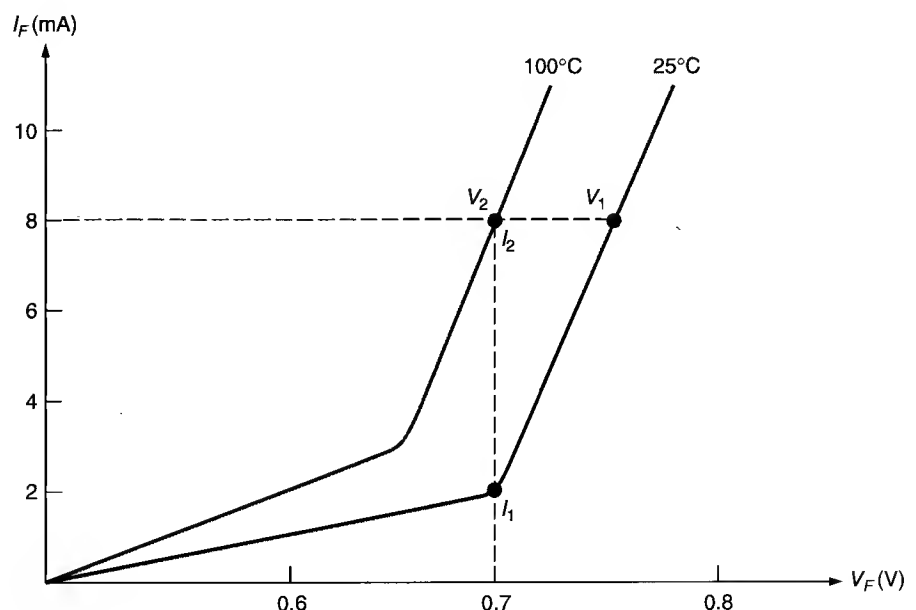

FIGURE 2.23 Temperature effects on forward operation.
The effects of increased temperature on forward diode operation are illustrated in Figure 2.23. As you can see, there are two forward operation curves. One represents the diode operation at 25°C, and the other represents the diode operation at 100°C. From the graph, we can draw two conclusions regarding forward diode operation and temperature:
1. As temperature increases, I_F increases at a specified value of V_F . This is illustrated in Figure 2.23 by the two points labeled I_1 and I_2 . As you can see, both of these points fall on the $V_F = 0.7$ V line. However, I_2 is greater than I_1 due to the increased thermal activity in the diode. As temperature has increased from 25°C to 100°C, the value of I_F has increased from 5 mA (I_1) to 25 mA (I_2).